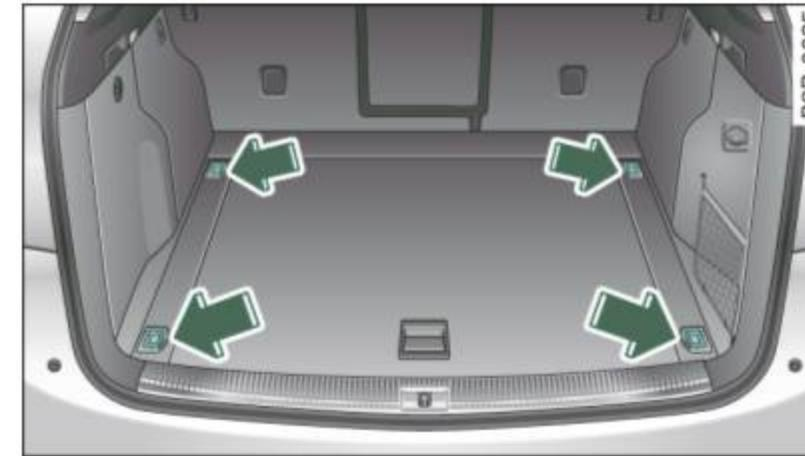

Fig. 80 Location of the tie-down rings in the luggage compartment
- Secure the cargo to the tie-down rings ⇒ fig. 80.